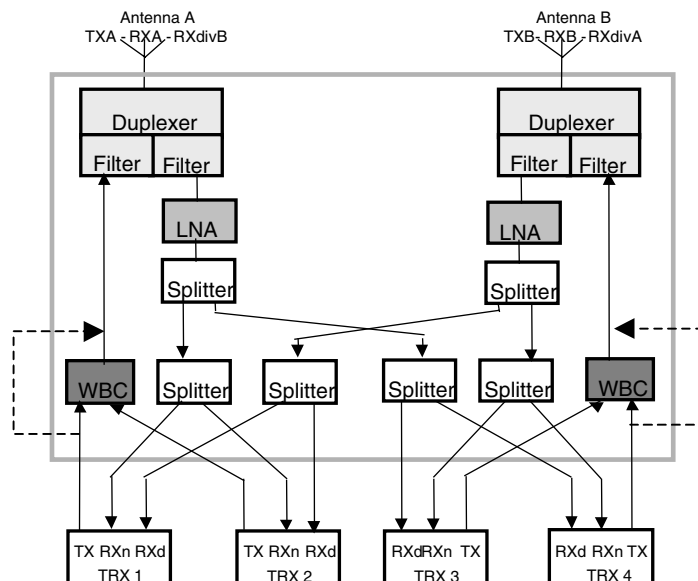

Figure 3: The Antenna network Combiner (ANc)- Combining mode
- The **Combining mode** for configuration from 3 up to 4 TRX, for which the Wide Band combiner is not bypassed as shown in the figure 3: